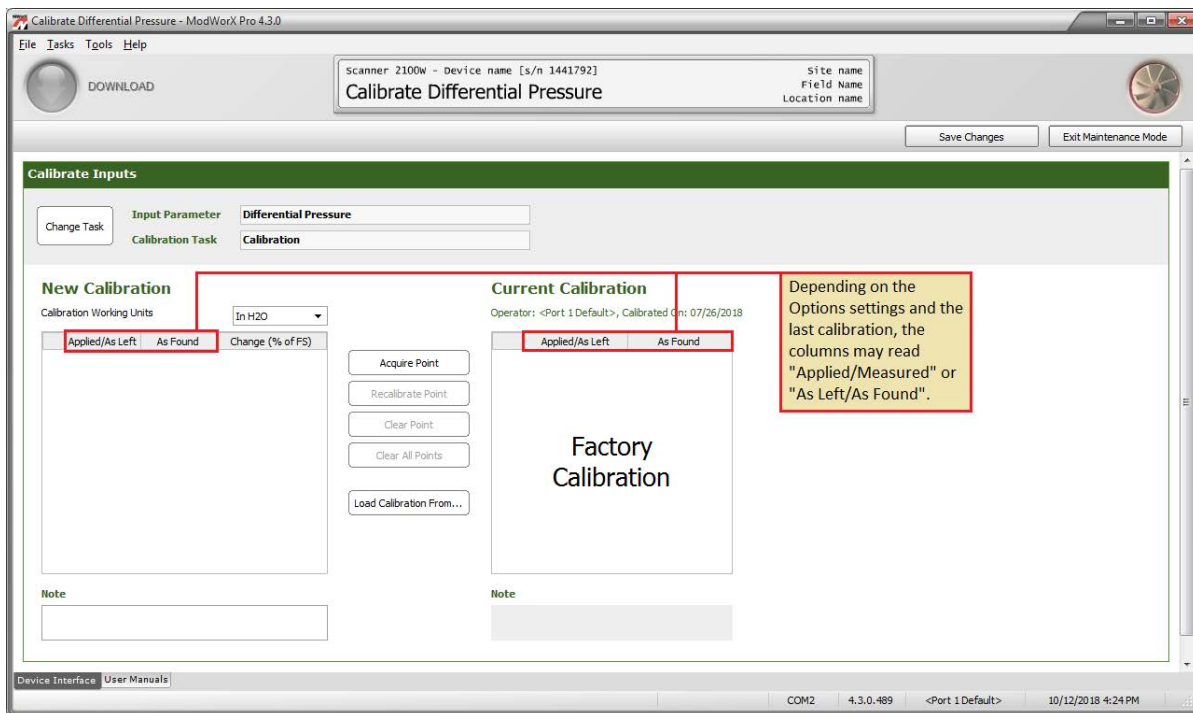
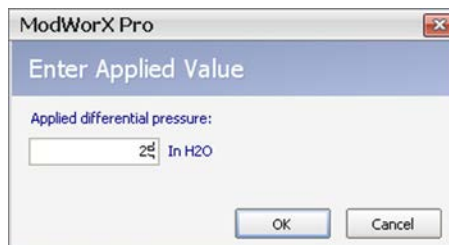

Figure 8.3
Figure 8.4
3. The Calibrate Differential Pressure screen will appear, and the input parameter and calibration task selections you made will appear at the top of the screen (Figure 8.3, page 105).
- In Figure 8.3, the “Calibration Working Units” located above the new calibration table shows the unit of measure to which the differential pressure will be calibrated. To use a different unit, select the desired unit from the Calibration Working Units dropdown menu.
- Apply a known pressure to the calibration test device (for example, 25 In H2O) and click **Acquire Point** (Figure 8.3). An Enter Applied Value dialog will appear (Figure 8.4).